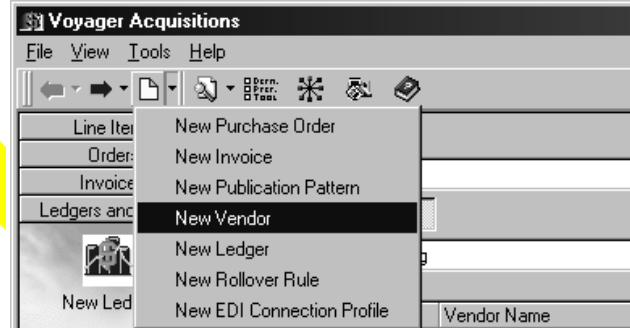

Figure 4-8. New Item menu on the toolbar
- Click the down arrow beside the **New Item** button on the toolbar and then select **New Vendor** from the list (see Figure 4-8).